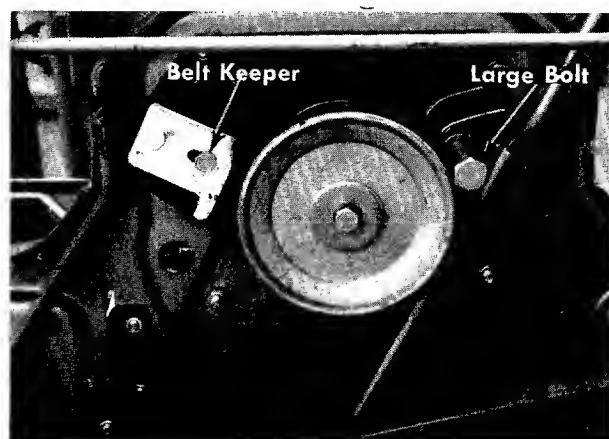

FIGURE 28. BELT KEEPER
Step 2. Remove the belt keeper and large bolt on the engine pulley. See figure 28.
- Step 2. Remove the belt keeper and large bolt on engine pulley. See figure 28.